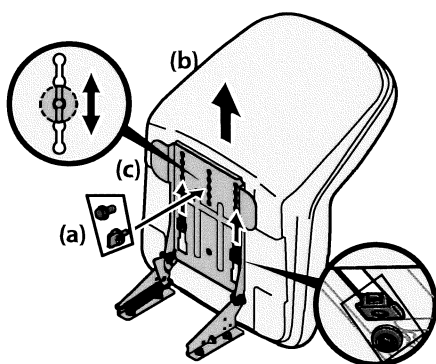

Figure 2-6
3. Slide the seat (b) rearward in the seat pivot bracket (c), lining up the center rear slot in the seat pivot bracket (c) with the remaining hole in the seat (b) base. See Figure 2-6.
Note: Be certain the two seat tabs (square or round) engage the seat pivot bracket as shown in the bottom right inset of Figure 2-6.
4. Select the desired position for the seat (b), and secure with the adjustment knob/bolt (a) removed in Step 1. See Figure 2-6.
5. To adjust the position of the seat, remove the adjustment knob/bolt (a) on the bottom of the seat (b). Slide the seat (b) forward or backward as desired. Reinstall the adjustment knob (a). See Figure 2-6.